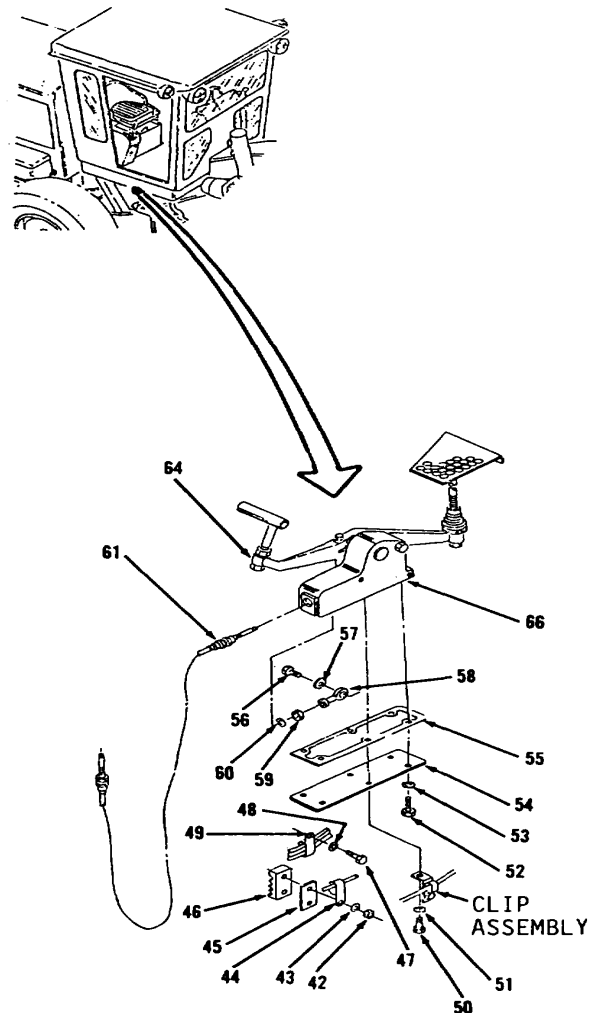

Figure 3-160.
38. Remove four nuts (42), washers (43), three clips (44), two plates (45) and clamps (46, Figure 3-160) from lower, left and right sides of articulation area.
39. Separate cable (61) from left and right clamps (46) and pull cable (61) through articulation area.
40. Remove bolt (47), washer (48) and clip (49) from under right side of operator's compartment.
41. Remove bolt (50), washer (51) and clip assembly from under right side of operator's compartment. Leave clip assembly mounted to hydraulic hose.
42. Remove five bolts (52), washers (53), cover (54) and gasket (55). Discard gasket (55). Remove all gasket material from mounting surfaces.
43. Remove bolt (56) and washer (57).
44. Separate rod end (58) and lever (64).
45. Loosen nut (59).
46. Remove rod end (58) and nut (59).
47. Remove nut (60) from inside housing (66).
48. Remove cable (61) from vehicle.